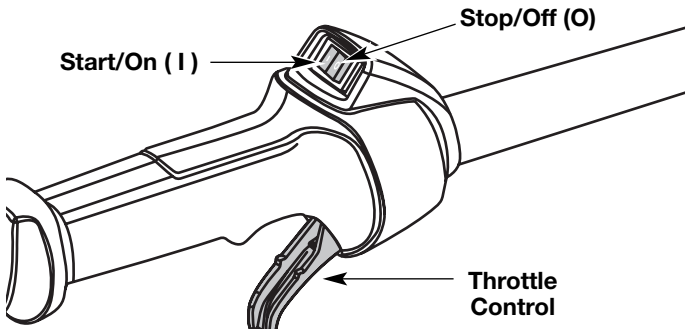

Fig. 8
**NOTE:** There is no need to turn the unit on. The On/Off Stop Control is in the ON (I) position at all times (Fig. 8).
2. Press the On/Off Stop Control in the OFF (O) position and hold until the unit completely stops running. (Fig. 8)